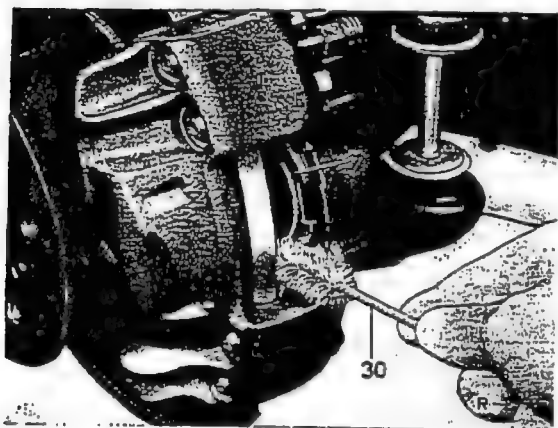

Fig. 42-10/18
2. Remove the locking clips on 1st version brake calipers where the lock pins (10) are secured with locking clips (21). Then drive the lock pins out of the brake caliper (9) and remove the crossleaf spring (23) (Fig. 42-10/23).